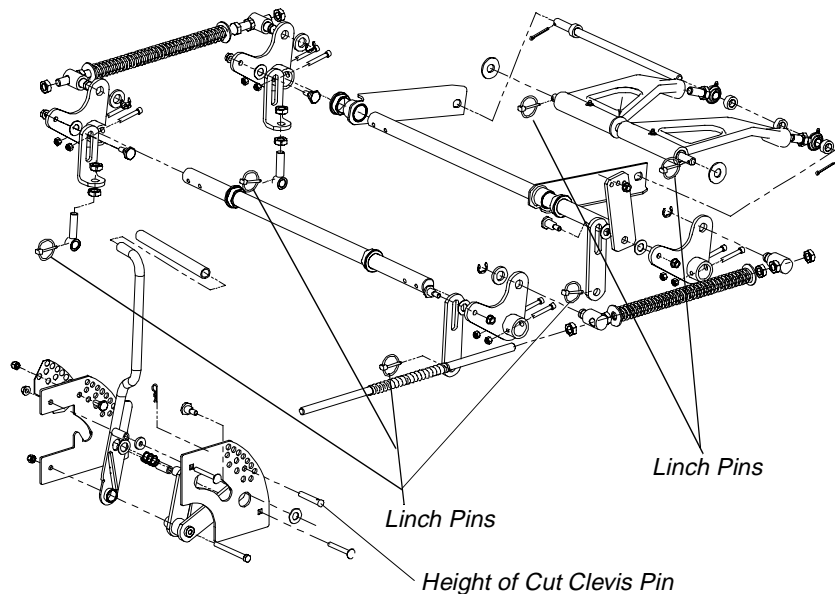

Figure. 6
- e. Remove six linchpins (See Fig. 6) (4) from the deck and (2) from the front of the mower. Remove the linchpins on the left and right rear side of the cutter deck (2); remove the linchpins on the left and right front side of the cutter deck (2); and remove the linchpins on the front of the mower (2).